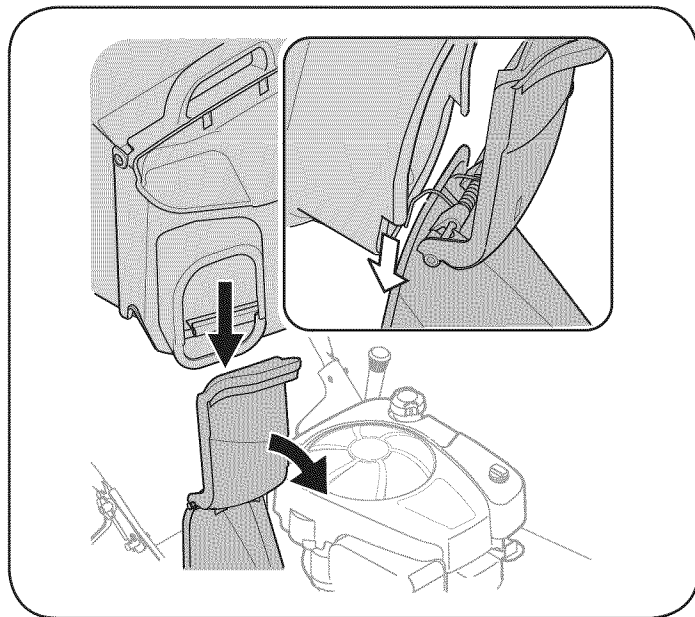

Figure 5
- Lift chute door on the grass bag adapter and slide grass bag onto the adapter. See Figure 5.